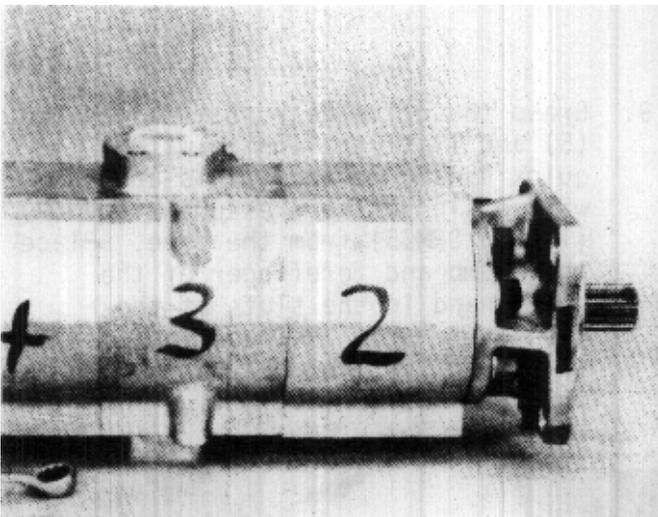

FIGURE 74
2. Mark the motor sections on the drive shaft extension side so that they can be reassembled exactly in the same order as they were originally. (Fig. 74)